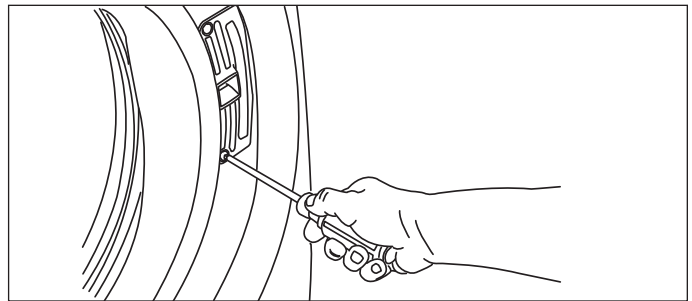

Figure 2-24.
1. Remove 2 short, course-thread, panhead screws from the door lock. (See Figure 2-24)